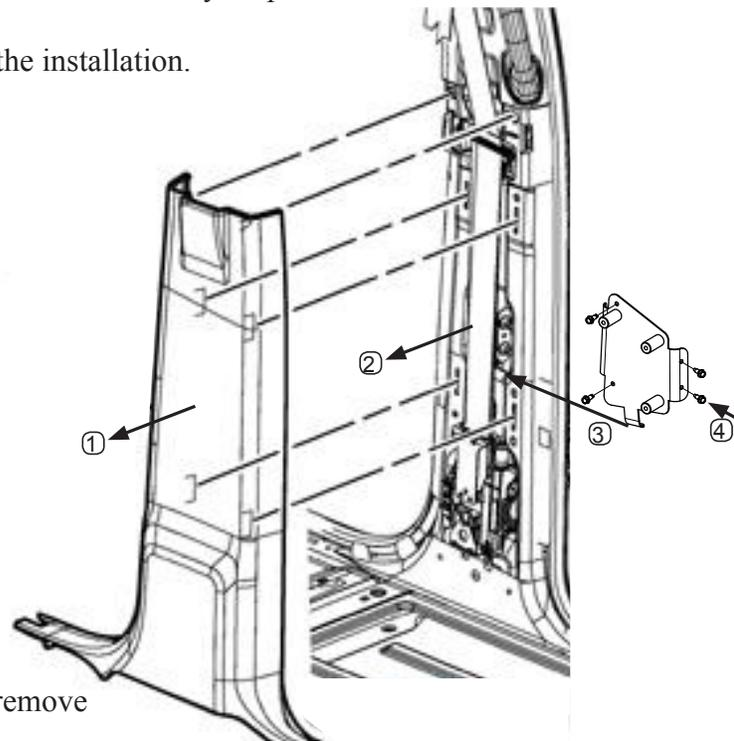
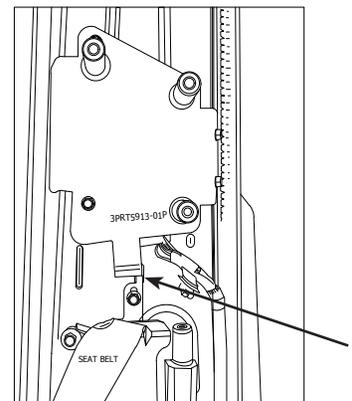

FIG. 1
FIG. 2
C. Place the Passenger B-pillar bracket (3PRT5913-01P) against the B-pillar face (See Fig. 1). Orient the B-pillar bracket so the bottom tab comes in contact with the seat belt bracket shown in Fig. 2 located behind the seat belt [3]. The formed edges will wrap around the B-pillar. Using the supplied Self-Drilling screws (3X162) secure part 3PRT5913-01P to the B-pillar [4]. The seat belt should now be between the trim panel and the installed bracket. Verify it operates smoothly before re-installing trim panel.